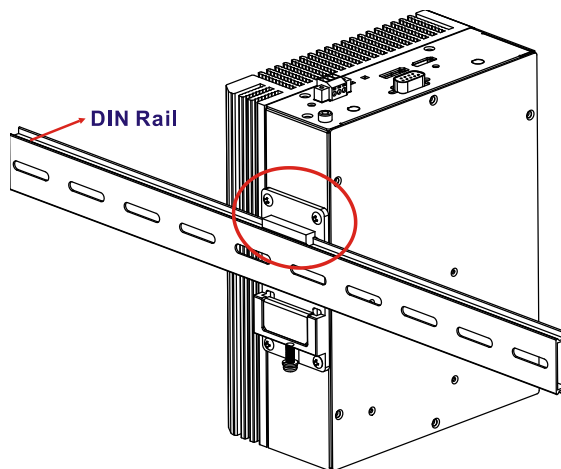

Figure 3-18: Attach the Mounting Bracket to the DIN Rail
- Step 3:** Attach the upper edge of the mounting bracket to the DIN rail as shown in **Figure 3-18**.